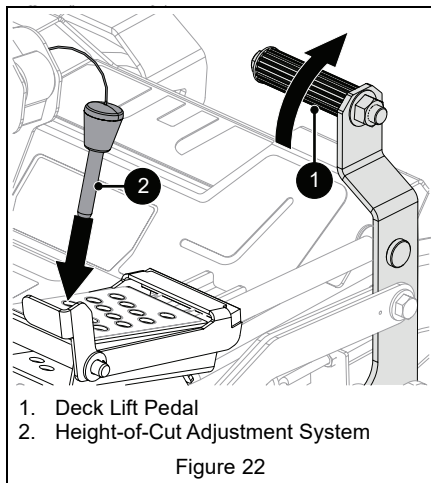

Figure 22
7. Set cutting height. See Figure 22.